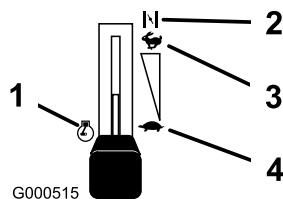

Figure 8
3. Move the throttle lever to Choke before starting a cold engine (Figure 8).
5. After the engine starts, move the throttle lever to Fast (Figure 8). If the engine stalls or hesitates, move the throttle lever back to Choke for a few seconds. Then move the throttle lever to the desired setting. Repeat this as required.
- Move the throttle lever to Fast (Figure 8).